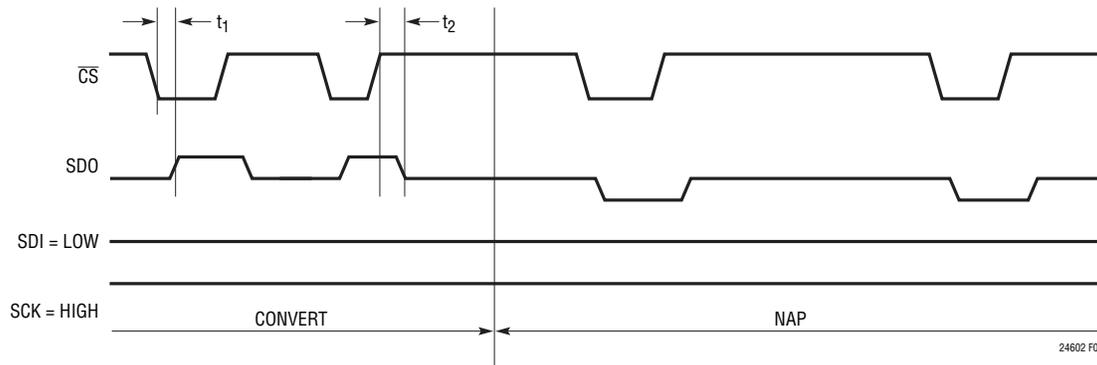

Figure 5. Conversion Status Monitoring Mode
**Note 8:** See Figure 5.
For certain applications, the user may wish to monitor the LTC2460/LTC2462 conversion status. This can be achieved by holding SCK HIGH during the conversion cycle. In this condition, whenever the  $\overline{CS}$  input pin is pulled low ( $\overline{CS} = \text{LOW}$ ), the SDO output pin will provide an indication of the conversion status. SDO = HIGH is an indication of a conversion cycle in progress while SDO = LOW is an indication of a completed conversion cycle. An example of such a sequence is shown in Figure 5.